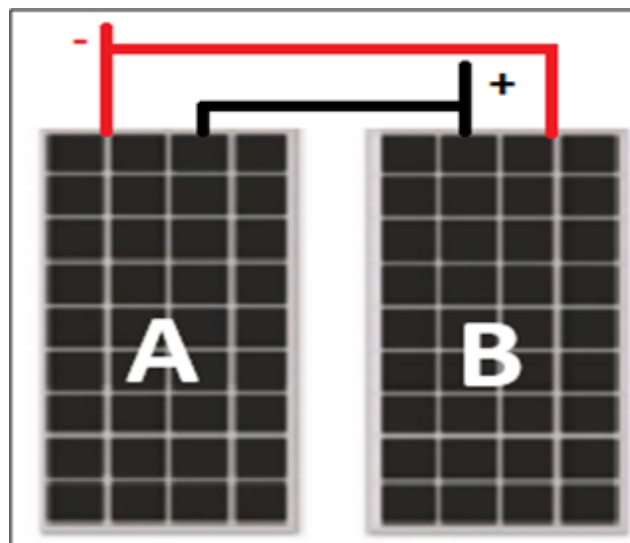

Figure 2.4 : Parallel connection of solar cell
2. Attach the wire or two electrical lead with an alligator clip to a solar cell as Figure 2.4.
3. Joined the -ve terminal of solar cell A with the +ve terminal of solar cell B and -ve terminal of solar cell A with -ve terminal of solar cell B as in Figure 2.4.
Similarly, connect the +ve terminal to the red lead of the multimeter as shown in Figure 2.4.